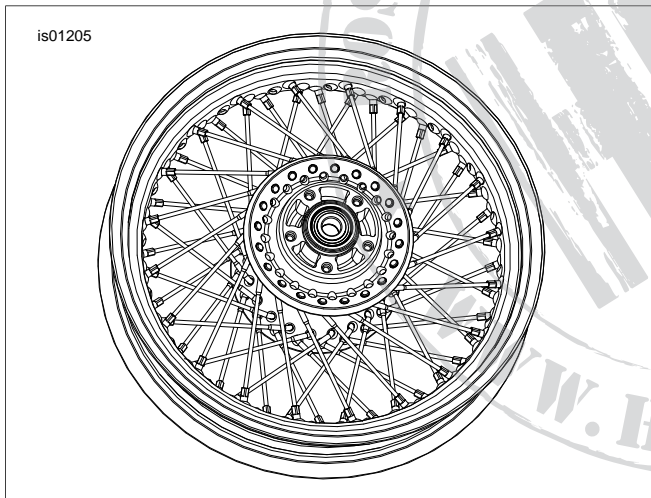

Figure 8. Install Outer Spokes
- See Figure 8. Turn rim over so brake disc side faces **down**. Place any **outer** row spoke into hub. Angle spoke counter-clockwise and place into rim hole angled to accept it. Loosely assemble the spoke nipple.